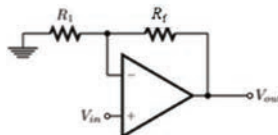

Figure 9.42 Ch 9: No. 9, self-test
9. Determine the output voltage, and input and output impedance for the circuit shown in Figure 9.42, if V_{in} is 40 mV, R_1 is 2 k Ω , R_f is 40 k Ω , A_{OL} is 130,000, Z_{in} is 1 M Ω and Z_{out} is 40 Ω .